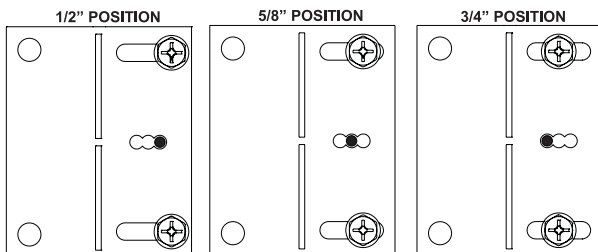

Figure 14
5. Measure from face of fireplace to face of drywall strip to determine final depth and adjust nailing flanges as shown in **Figure 14.**